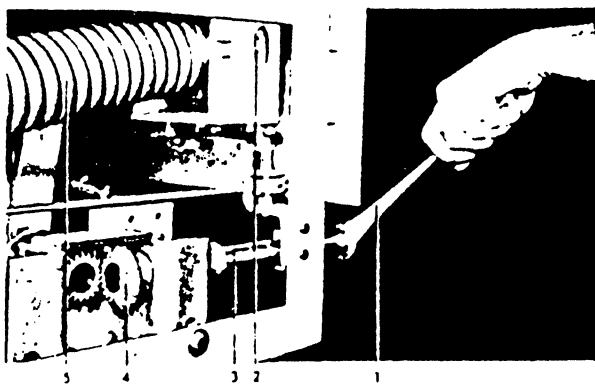

Fig. 1 (8037382) Manual Charging
2. Charge the breaker closing springs manually using a 5/8" ratchet wrench to turn the manual charging shaft (3) Figure 1. Turning the shaft counter clockwise will advance the ratchet wheel and compress the springs.
Insert the spring-blocking devices into a hole (2) Figure 1 on each side of breaker, and manually discharge the springs against the pins by pushing the manual close button (6) Figure 2. The springs are now blocked and slow closing of the breaker contacts can be accomplished by again turning the manual charging shaft with a 5/8" ratchet wrench.